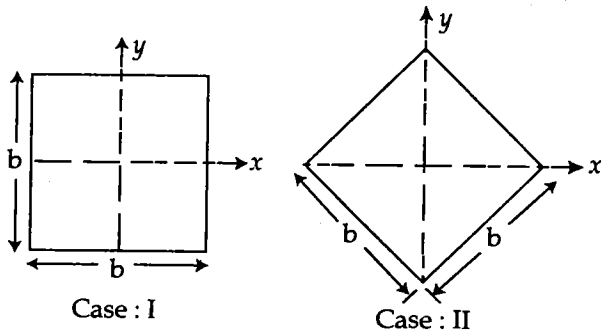

Fig. 3
2. (a) Determine the ratio of moments of resistance of a beam of square section when placed in two positions as shown in Fig. 3.